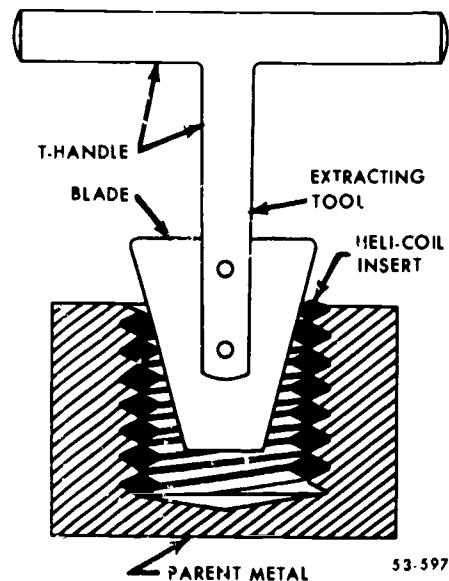

Figure 6-23. Use of the Heli-Coil extracting tool.
**Heli-Coil Insert Installation.** The use of Heli-Coils requires some special tools, the most important of which is the tap (see fig. 6-23). Each size of Heli-Coil insert has its own special tap. Also, each Heli-Coil size has a particular size of inserting tool. The standard inserting tool prewinds the Heli-Coil (compresses it to the same size that it will be when installed) in a threaded tubular portion, and a slotted center shaft is used to wind the insert into the parent threads. If your shop does not have a Heli-Coil tap drill chart, you can obtain this information, as well as other information about the use of Heli-Coils, from Technical Order 44H1-1-117, *General Installation of Heli-Coil Inserts* or from TO 1-1A-8, *Structural Hardware*.
**Heli-Coil Insert Removal.** Removing a damaged Heli-Coil is a fairly simple matter. Figure 6-23 shows how a standard Heli-Coil extractor is used. Each extractor tool has a certain range of insert sizes that it can be used on (usually marked on the tool). Before you attempt to remove the insert, check to see whether the parent metal has been dimpled in front of the top thread of the Heli-Coil. If it has been, you must remove whatever metal is blocking the insert thread before the insert can be efficiently removed. The extractor should be inserted into the holes so that one side of the blade is a quarter-turn from the end of the top insert coil. Strike the head of the tool *lightly* with a hammer. This causes the edges of the extractor blades to dig into the top coil of the insert. After the blade has been properly seated in the coil, you should apply heavy hand pressure on the handle of the tool and turn it slowly counterclockwise. Maintain a firm pressure as the insert backs out. A stud extractor made from a tool bit can also be used to remove a Heli-Coil insert when a standard extracting tool is not available.
**Exercises (056):**